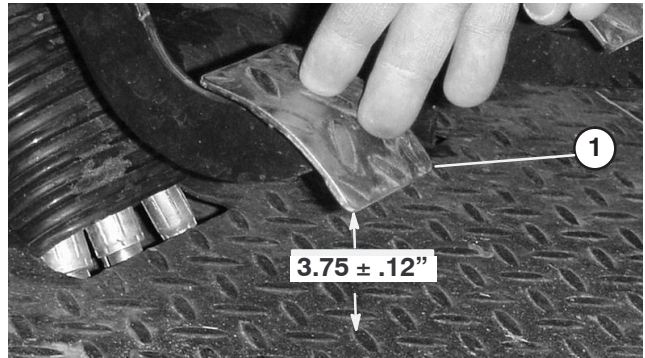

Figure 44
3. Adjust the jam nuts/or ball joint until the back rear edge of the clutch pedal is $3.75'' \pm .12''$ from the top of the floor plate diamond pattern, when an 4 lb. force is applied to the pedal (Fig. 44).